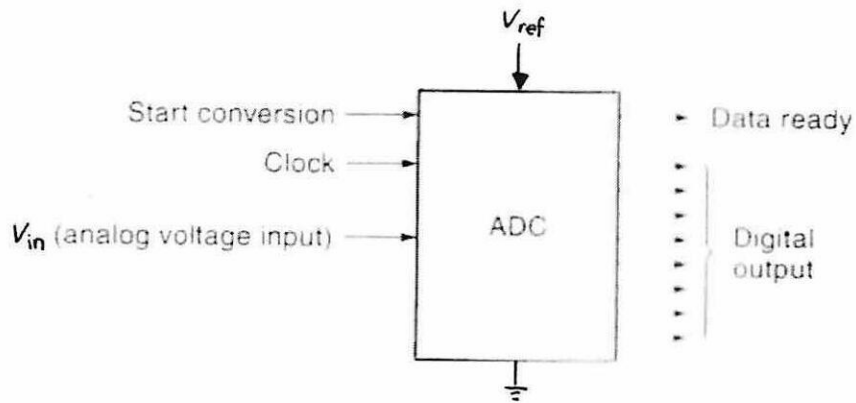

Figure Q4(a)
- Q4** (a) Block diagram of 8 bit Analog to Digital Converter(ADC) is shown in **Figure Q4(a)**.
- (i) Briefly describe **three (3)** functions of ADC (6 marks)
- (ii) Sketch the output of ADC in the **Figure Q4(a)** (3 marks)